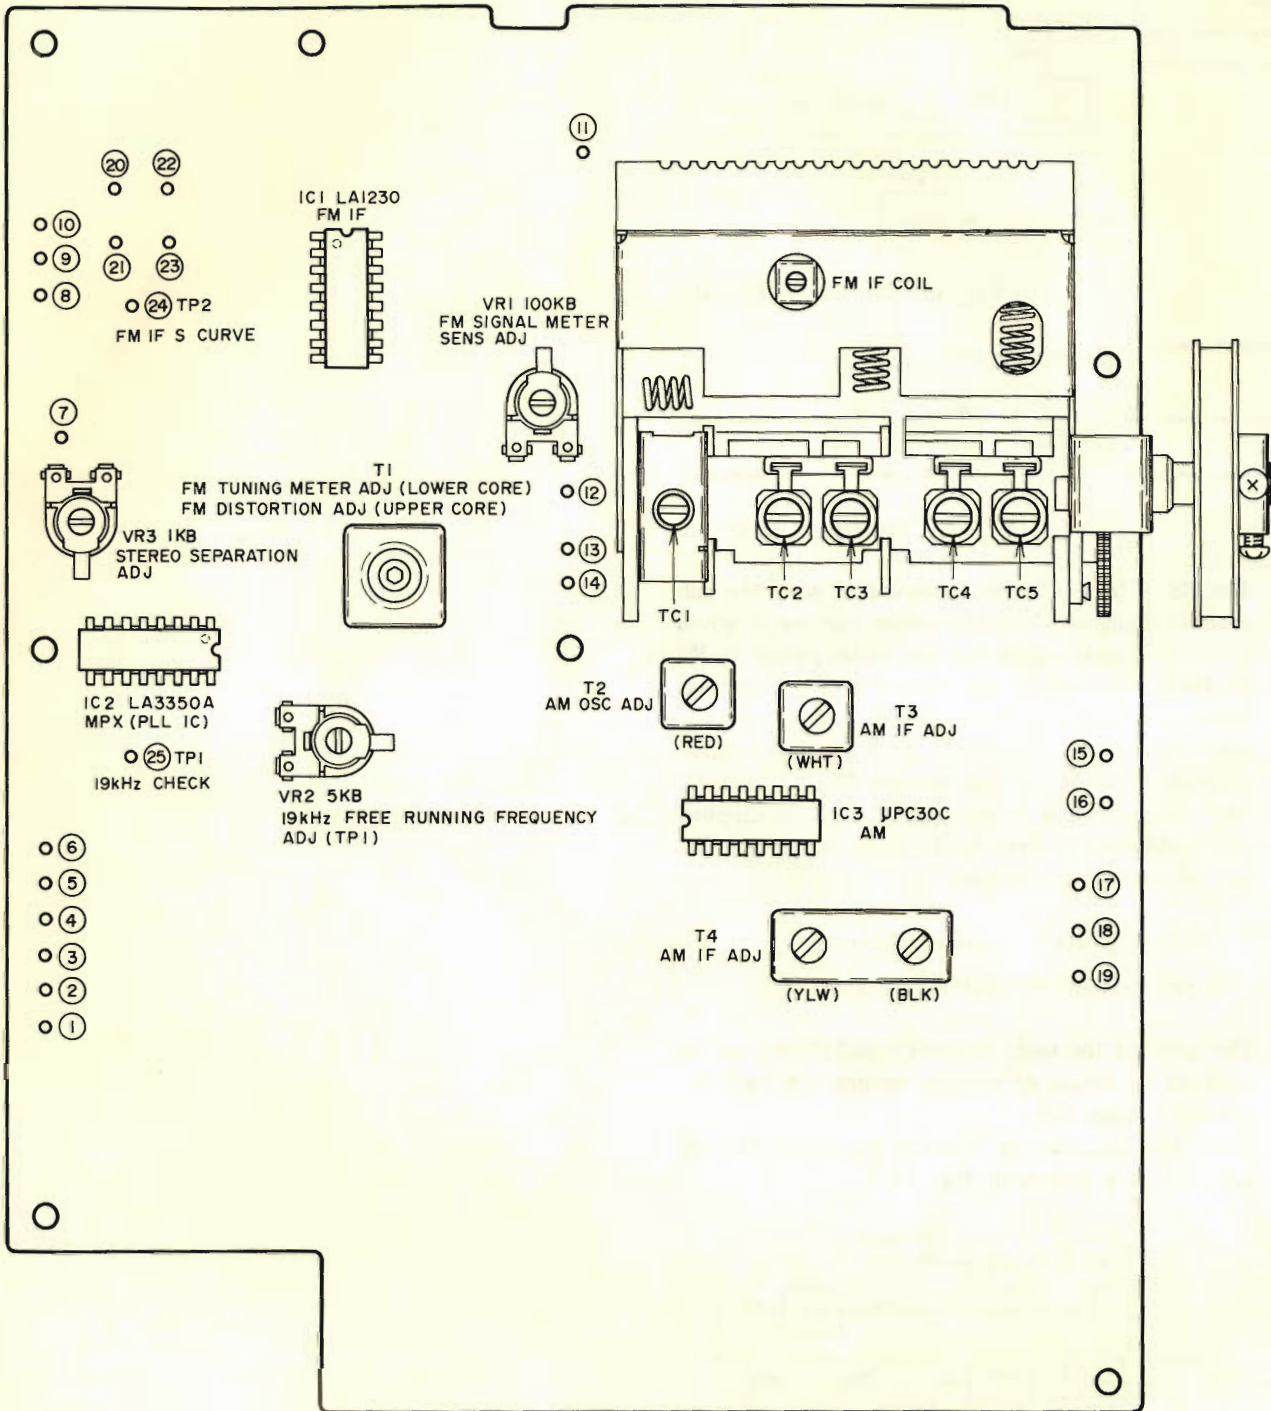
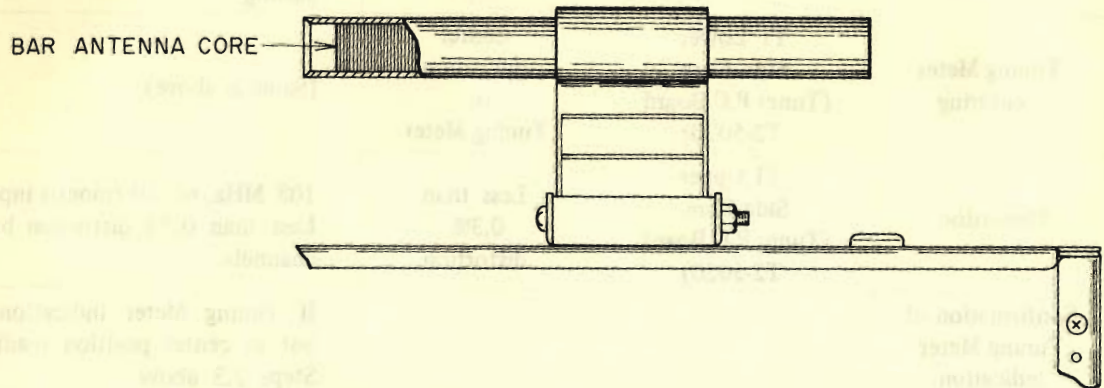

Fig. 15 AT-2200 Tuner P.C Board T2-5020
Fig. 16 Bar Antenna
1) FM Section Adjustment (Refer to Fig. 15)
2) AM Section Adjustment (Refer to Fig. 15 and Fig. 16)